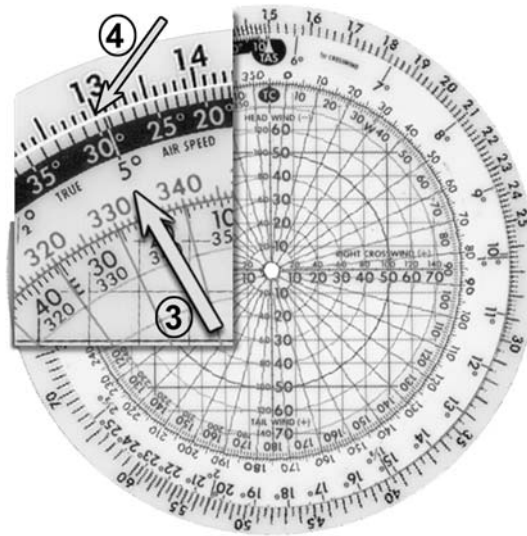

Figure 4.6-7 In-Flight Wind Calculation 3 & 4
3. Use 10% rule to estimate crosswind and then input DA (5 degrees) on middle wheel (Figure 4.6-7).
4. Read crosswind (13 kts) above DA (Figure 4.6-7). Round to the nearest whole knot.